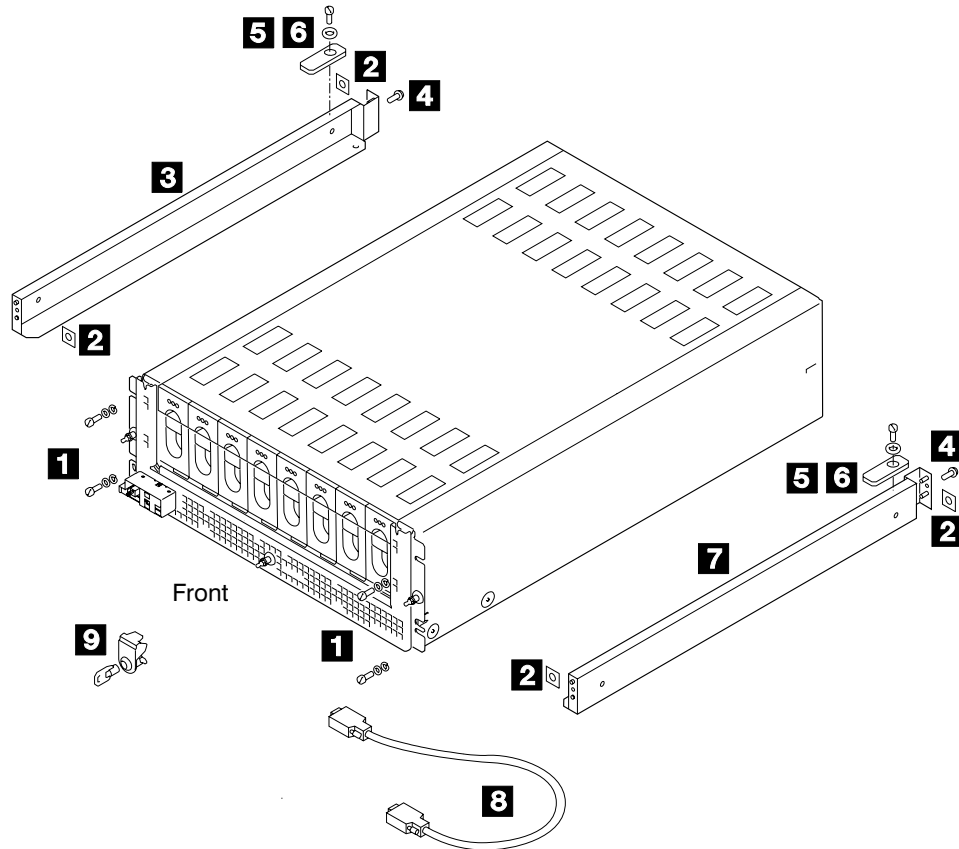
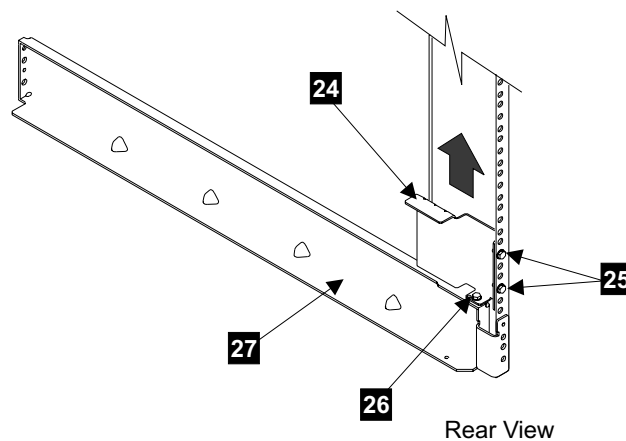

Figure 124. SSA DASD Drawer Installation Parts, Model 020 Drawer (t007191n)
Figure 129. SSA DASD Model 040 Drawer Hold Down Bracket Installation (t007662m)
- ___ 2. To install a 7133 Model 020 drawer, replace the hold down bracket **15** in Figure 129 on page 143, with rear clamp plates **6** in Figure 124 on page 140.